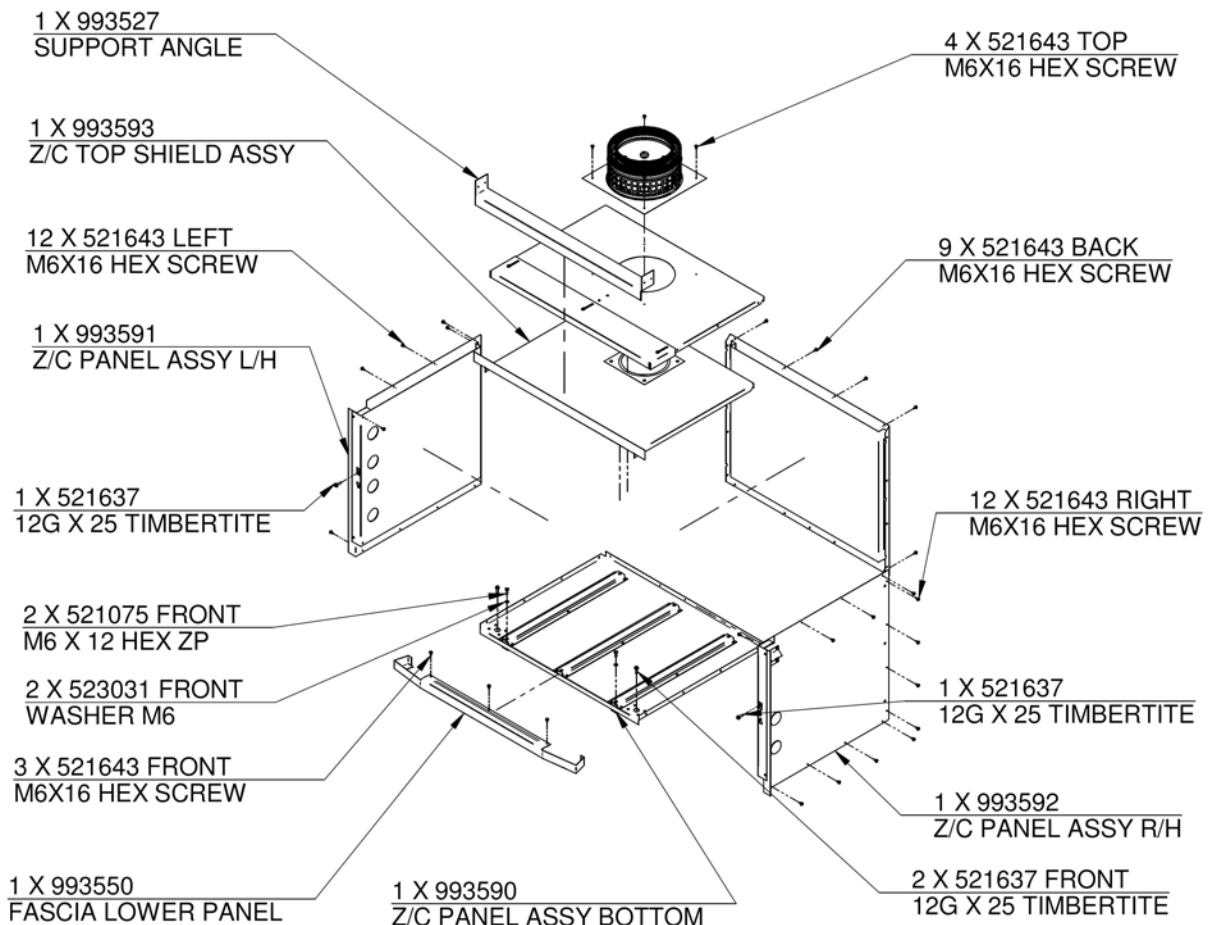

Fig. 4
11. **Assemble** the base, sides, back, top shield assembly and top panel of the **shielding box**. Do not fit the special adaptor spigot ring at this stage. This should be done after the assembly has been pushed into the enclosure (See Fig. 4).